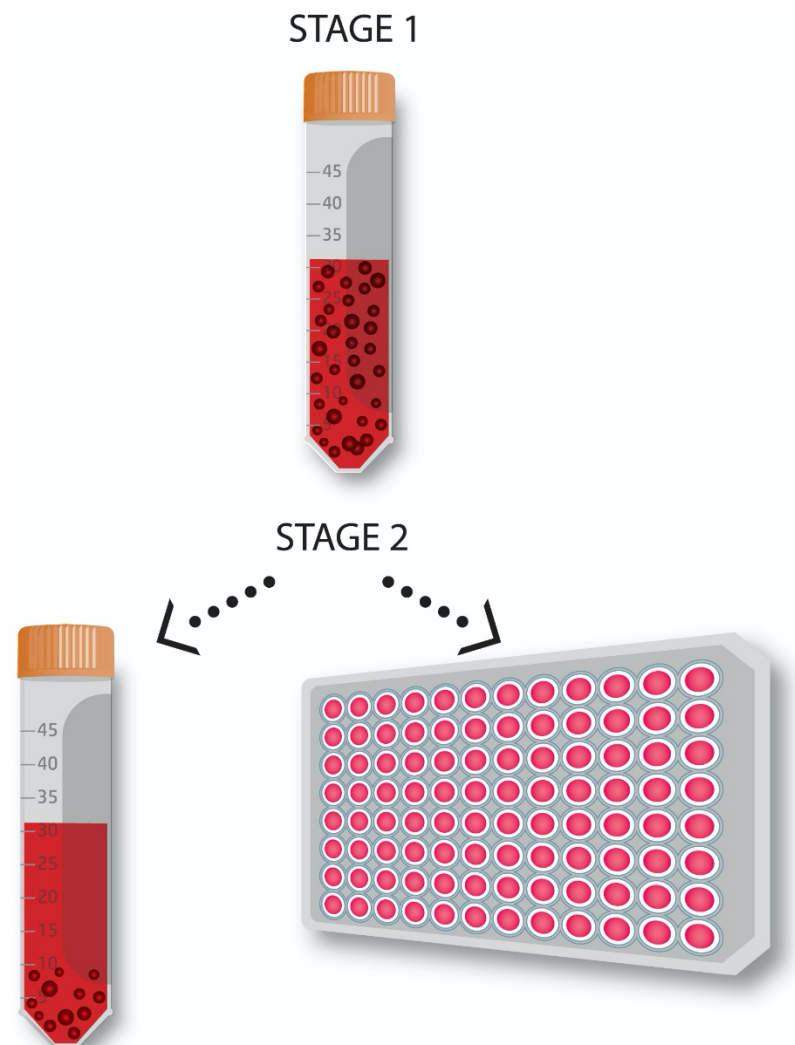

Figure 2. Cellular material can be either harvested or re-plated on low attachment VHP microplates (provided) allowing for further assay experimentation.
- Re-plated for further experimentation (**Figure 2**)